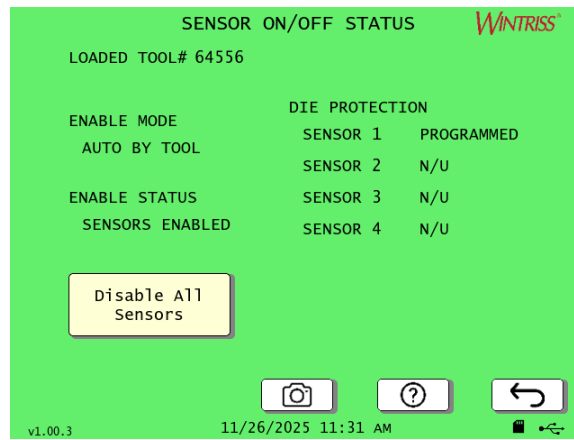

Figure 4-29. Sensor Enable/Disable and Status Screen
1. On the Main Program menu, Figure 4-2, page 200, press SENSOR ENABLE/DISABLE & STATUS. The Sensor Enable/Disable and Status screen appears, Figure 4-29. It shows the sensor enable mode, enable status, and whether the sensors are programmed.